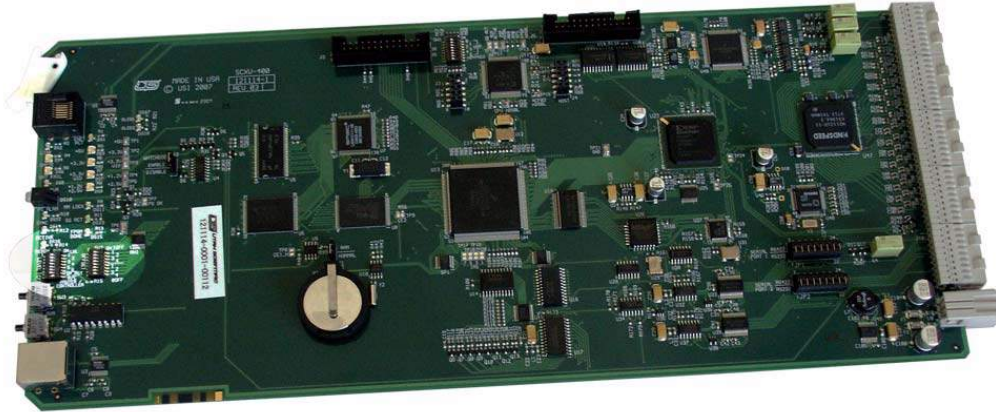

FIGURE 3-1. Crosspoint Board Dipswitch Location
- Please see Table Figure 3.1, “Switch Settings,” on page 3-7 to set the Level dipswitches and to determine which switches must be changed for the Level desired.